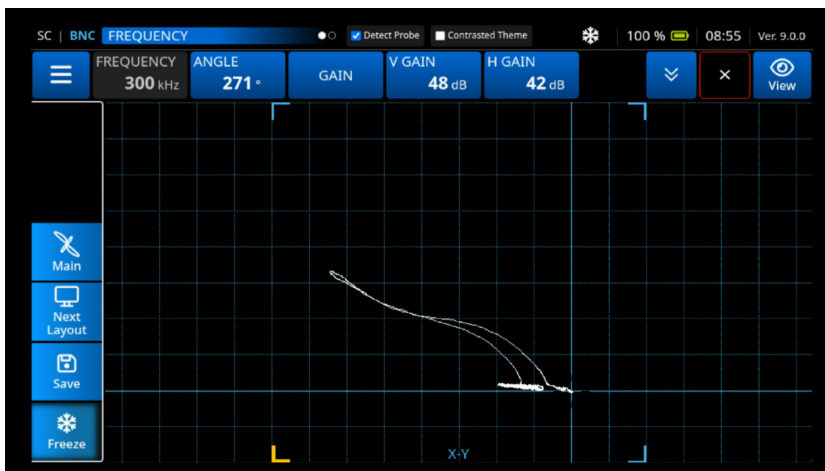

Figure 3-8 Pressing Freeze
5. Scan the 0,02 in. (0.5 mm) deep EDM Notch, and press **Freeze** (See Figure 3-8 on page 51).